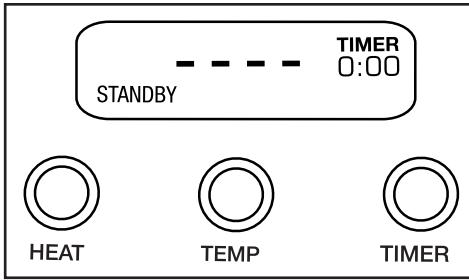

Figure 1
- 120 volt units are supplied with a molded 3-prong grounding-type plug and should be used in combination with a properly connected grounding-type outlet, as shown in Figure 1.
NOTE: The Induction Range requires induction-ready cookware. If the pan is not induction ready, it will not register on the induction range. The LCD display will show “-----” and “STANDBY” will flash (as seen in figure 1) when attempting to select a heat mode without an induction-ready pan on the glass cooking surface. The unit will automatically shut off after 60 seconds of not having an induction-ready pot/pan.